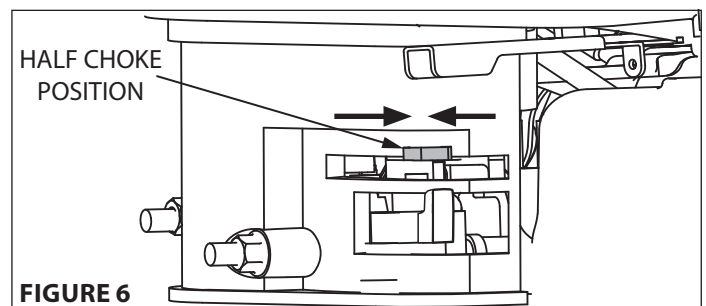

FIGURE 6
- If the engine is warm or the ambient temperature is high, move choke lever to the **HALF CHOKE** position or **RUN** position. **SEE FIGURES 6 AND 7**
9. After engine begins operating, move choke lever to **HALF CHOKE** position. **SEE FIGURE 6**